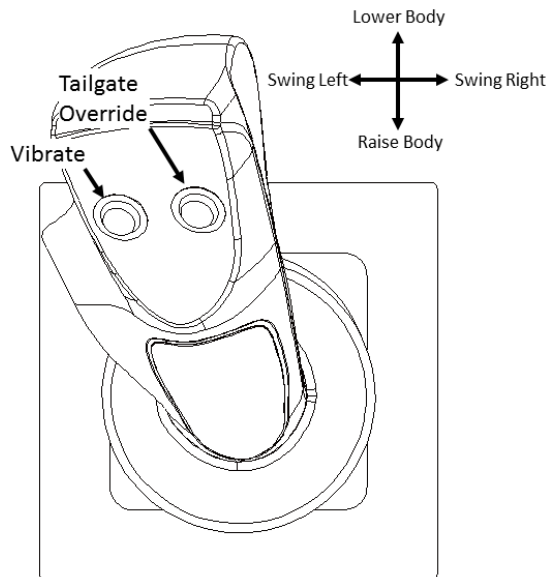

Figure 2.2.5 - Joystick Operation
2. Pull the joystick back towards the rear of the truck to raise the body. Releasing the joystick from this position at any time will stop the body from rising. See Figure 2.2.5 for joystick operation.
2. Move the joystick to rotate the back of the body in the intended direction. See Figure 2.2.5. An alarm will sound while the body is being rotated. Releasing the joystick at any time will stop the dump body from moving.